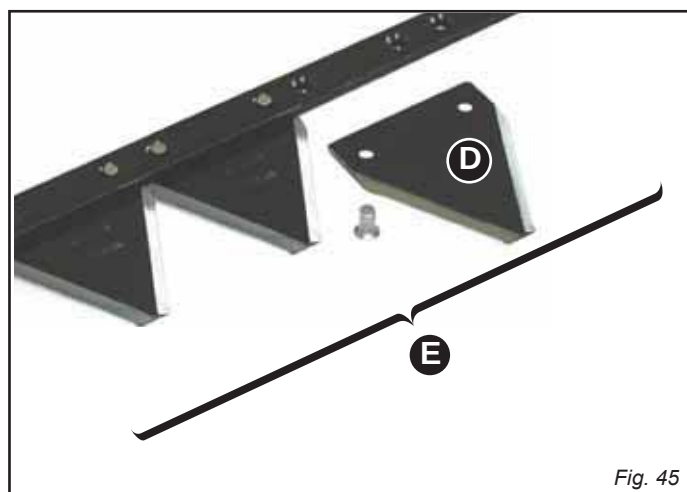

Fig. 45
REPLACEMENT OF SECTION-HOLDING BAR (E, Fig. 45)
REPLACEMENT OF SECTIONS (D, Fig. 45)
- Rivet a new section with the rivets provided (D, Fig. 45).